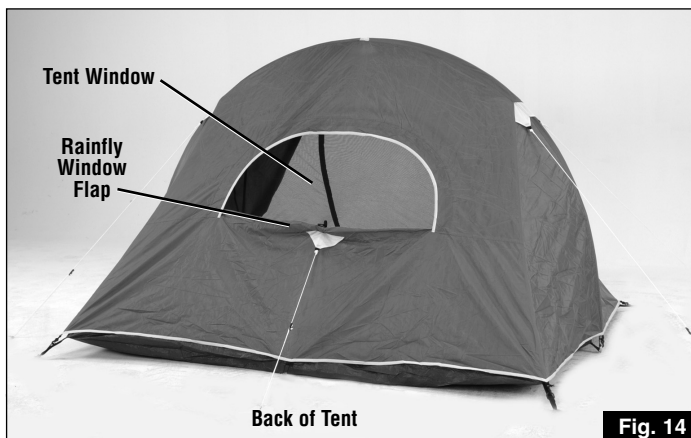

Fig. 14
- Unzip the rainfly window flap and/or the tent window, roll up one or both flaps, then insert toggle through fabric loops to secure. (Fig. 14)